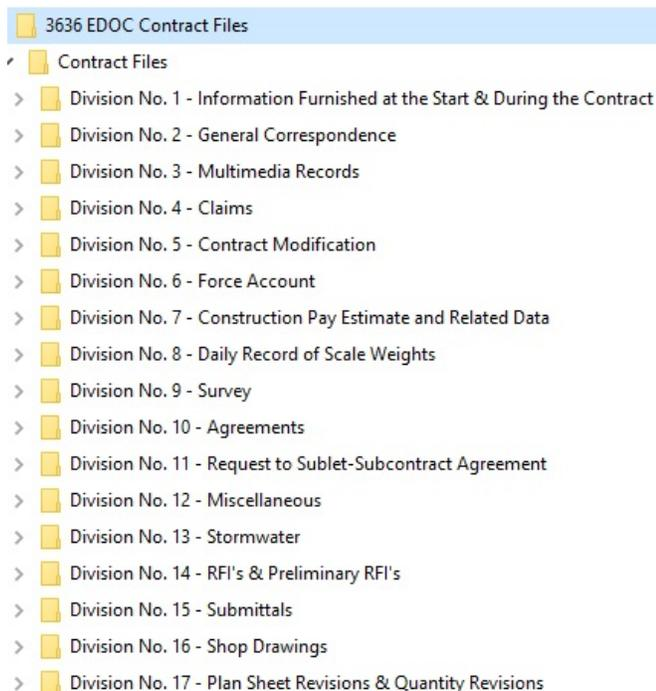

**Figure 2-15: EDOC Contract Files Subdirectories**
14. The EDOC Contract Files directory template contains two subdirectories (the Contract Files & Materials & Testing Files) and a file index spreadsheet (Figure 2-15). Each subdirectory contains additional subdirectories (Divisions) that are explained in the following sections.